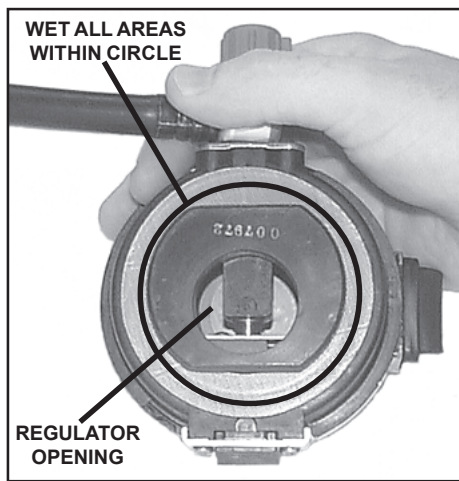

FIGURE 13
3. Inspect the inside of the regulator assembly through the regulator opening (see FIGURE 13). If excessive dirt or soil is present, forward regulator assembly to SCOTT trained authorized personnel for thorough cleaning.
4. Depress the donning/air saver switch, close the purge knob by turning fully clockwise. Use the SCOTT recommended sanitizing or disinfecting cleaner in the regulator opening and the immediate area around the opening (see FIGURE 13). Be sure to cover internal components completely.